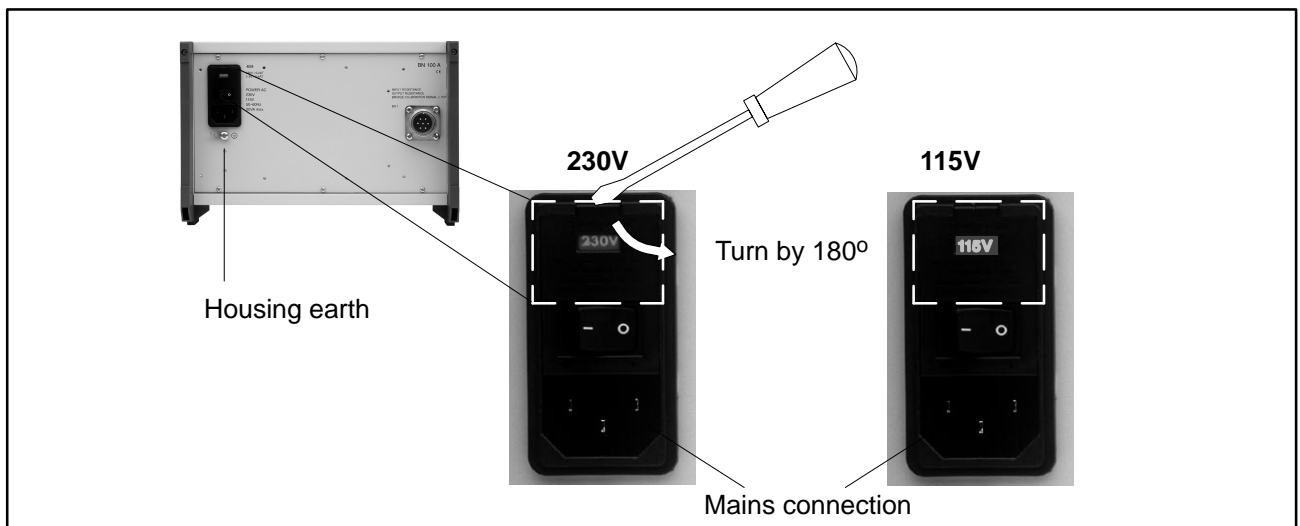

Fig.2.1: Switching the mains voltage
- Be sure to have selected the appropriate mains voltage (see Abb. 2.1).